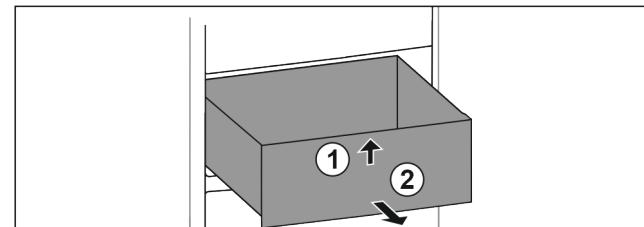

Fig. 74
- Lift up drawer at the front. Fig. 74 (1)
- Remove drawer to the front. Fig. 74 (2)